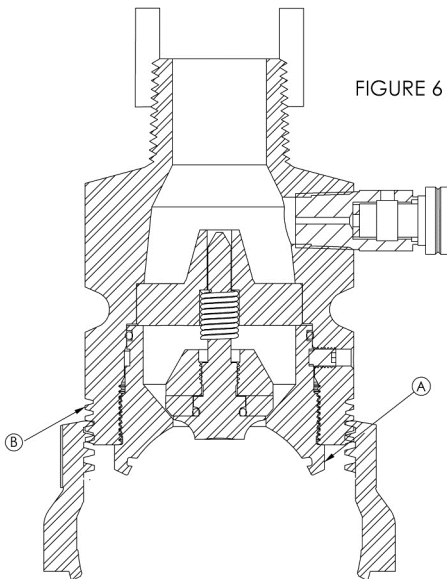

FIGURE 6
2. Attach the hose or coupling to the Upper Housing ②.
3. Screw the catch nut down (off) until the internal threads are slightly exposed. (see B in Figure 6).
6. Inspect for the presence of the sealing O-Rings ⑤ in FIGURE 6. If they are missing or cut, replace them.